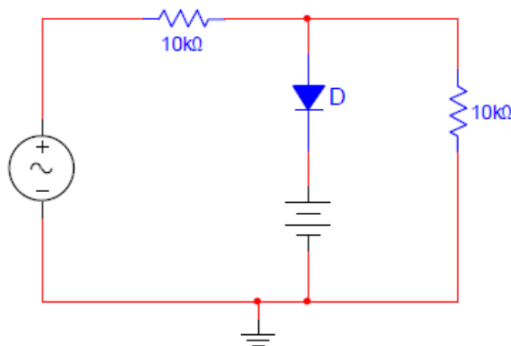

Fig. 1
1. Connect the circuit shown in Figure 1.